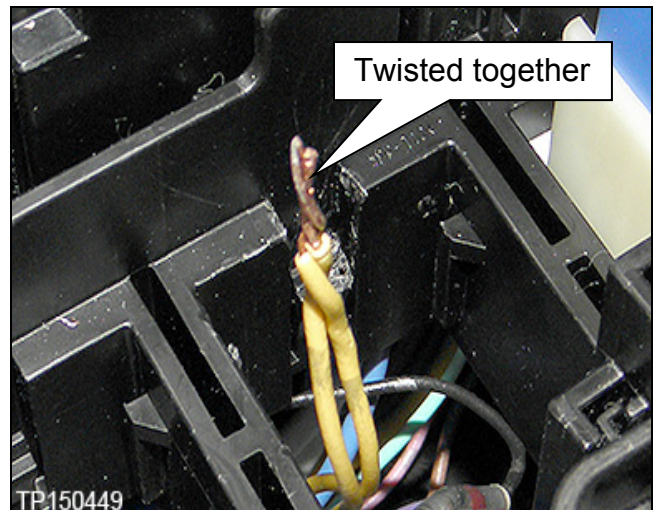

Figure 8
9. Twist both of the yellow wires together (Figure 8).